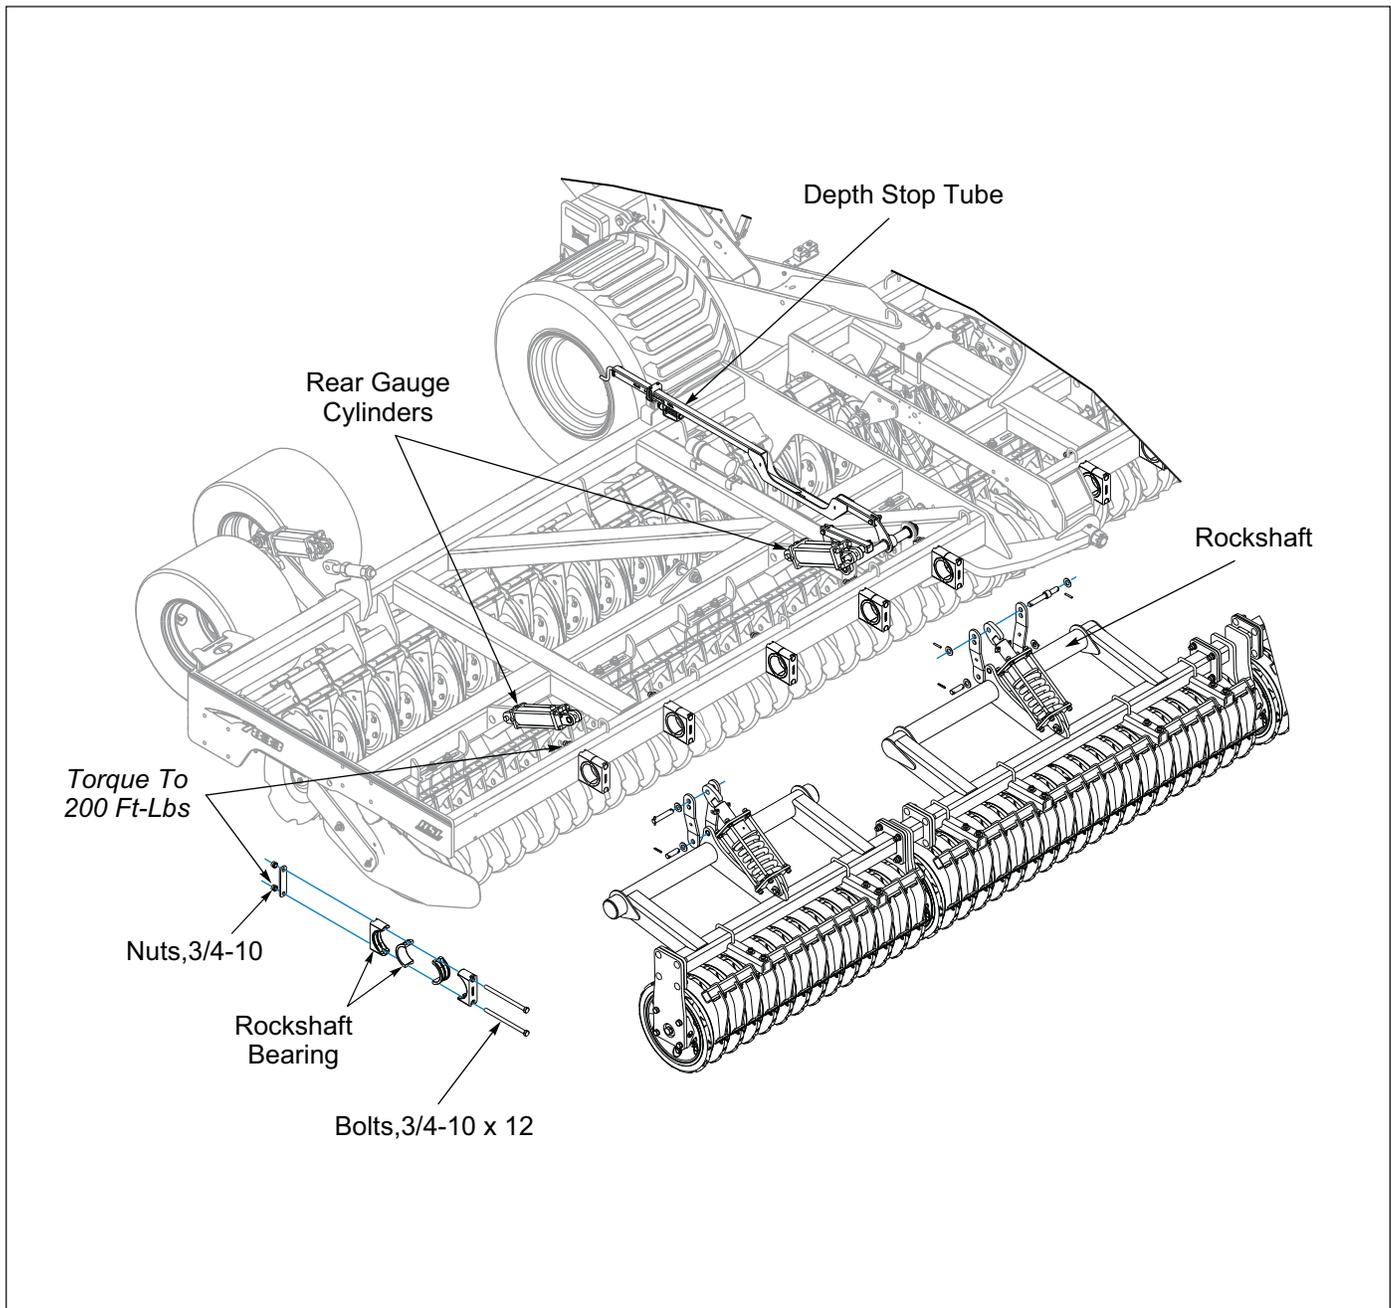

Figure 3-3: Rear Gauge Assembly
1. Once the Rear Gauge Rockshafts are in place, secure the Rockshaft Bearings with the 3/4-10 x 12 Bolts and Locknuts provided. Torque the nuts to approximately 200 Ft-Lbs. **See Figure 3-3.**